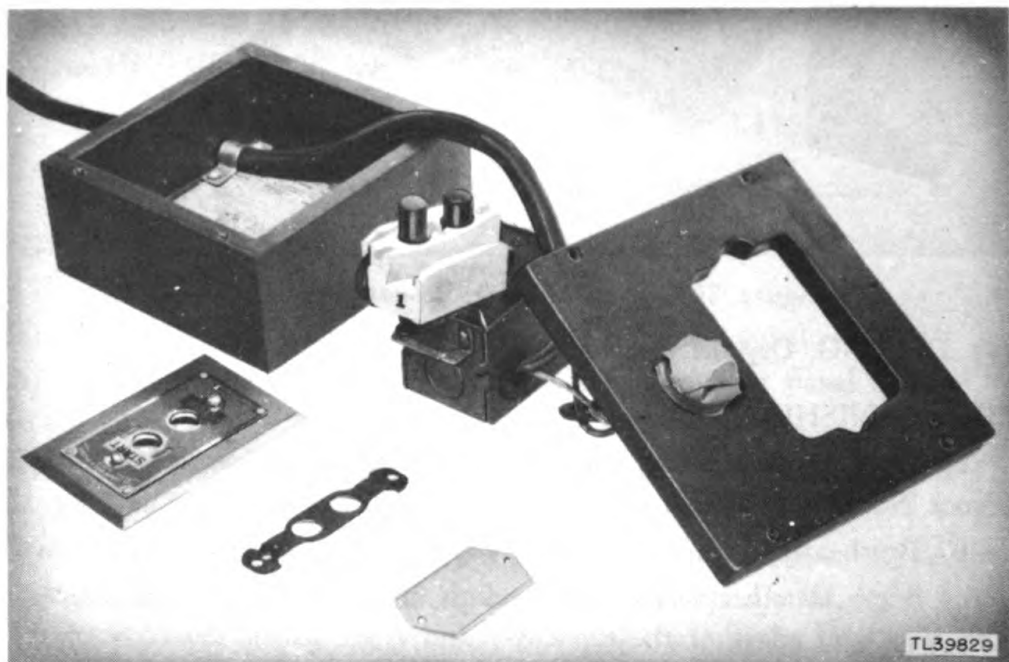

Figure 31. Remote Control Box BC-670-B, masking details.
(3) **MASKING** (fig. 31). Mask the pilot lamp jewel cap on the top panel.